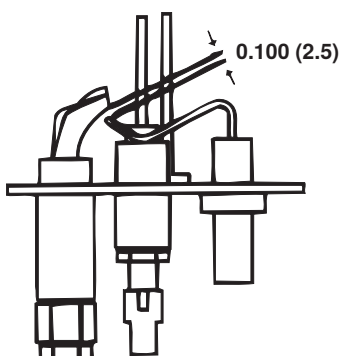

Figure 36. Pilot Assembly Spark Gap
4. Check the spark gap (see Figure 36), which should be maintained to 0.100 inch (2.5 mm).
- c. Verify that pilot spark gap (see Figure 36) is approximately 0.100 inch (2.5 mm).